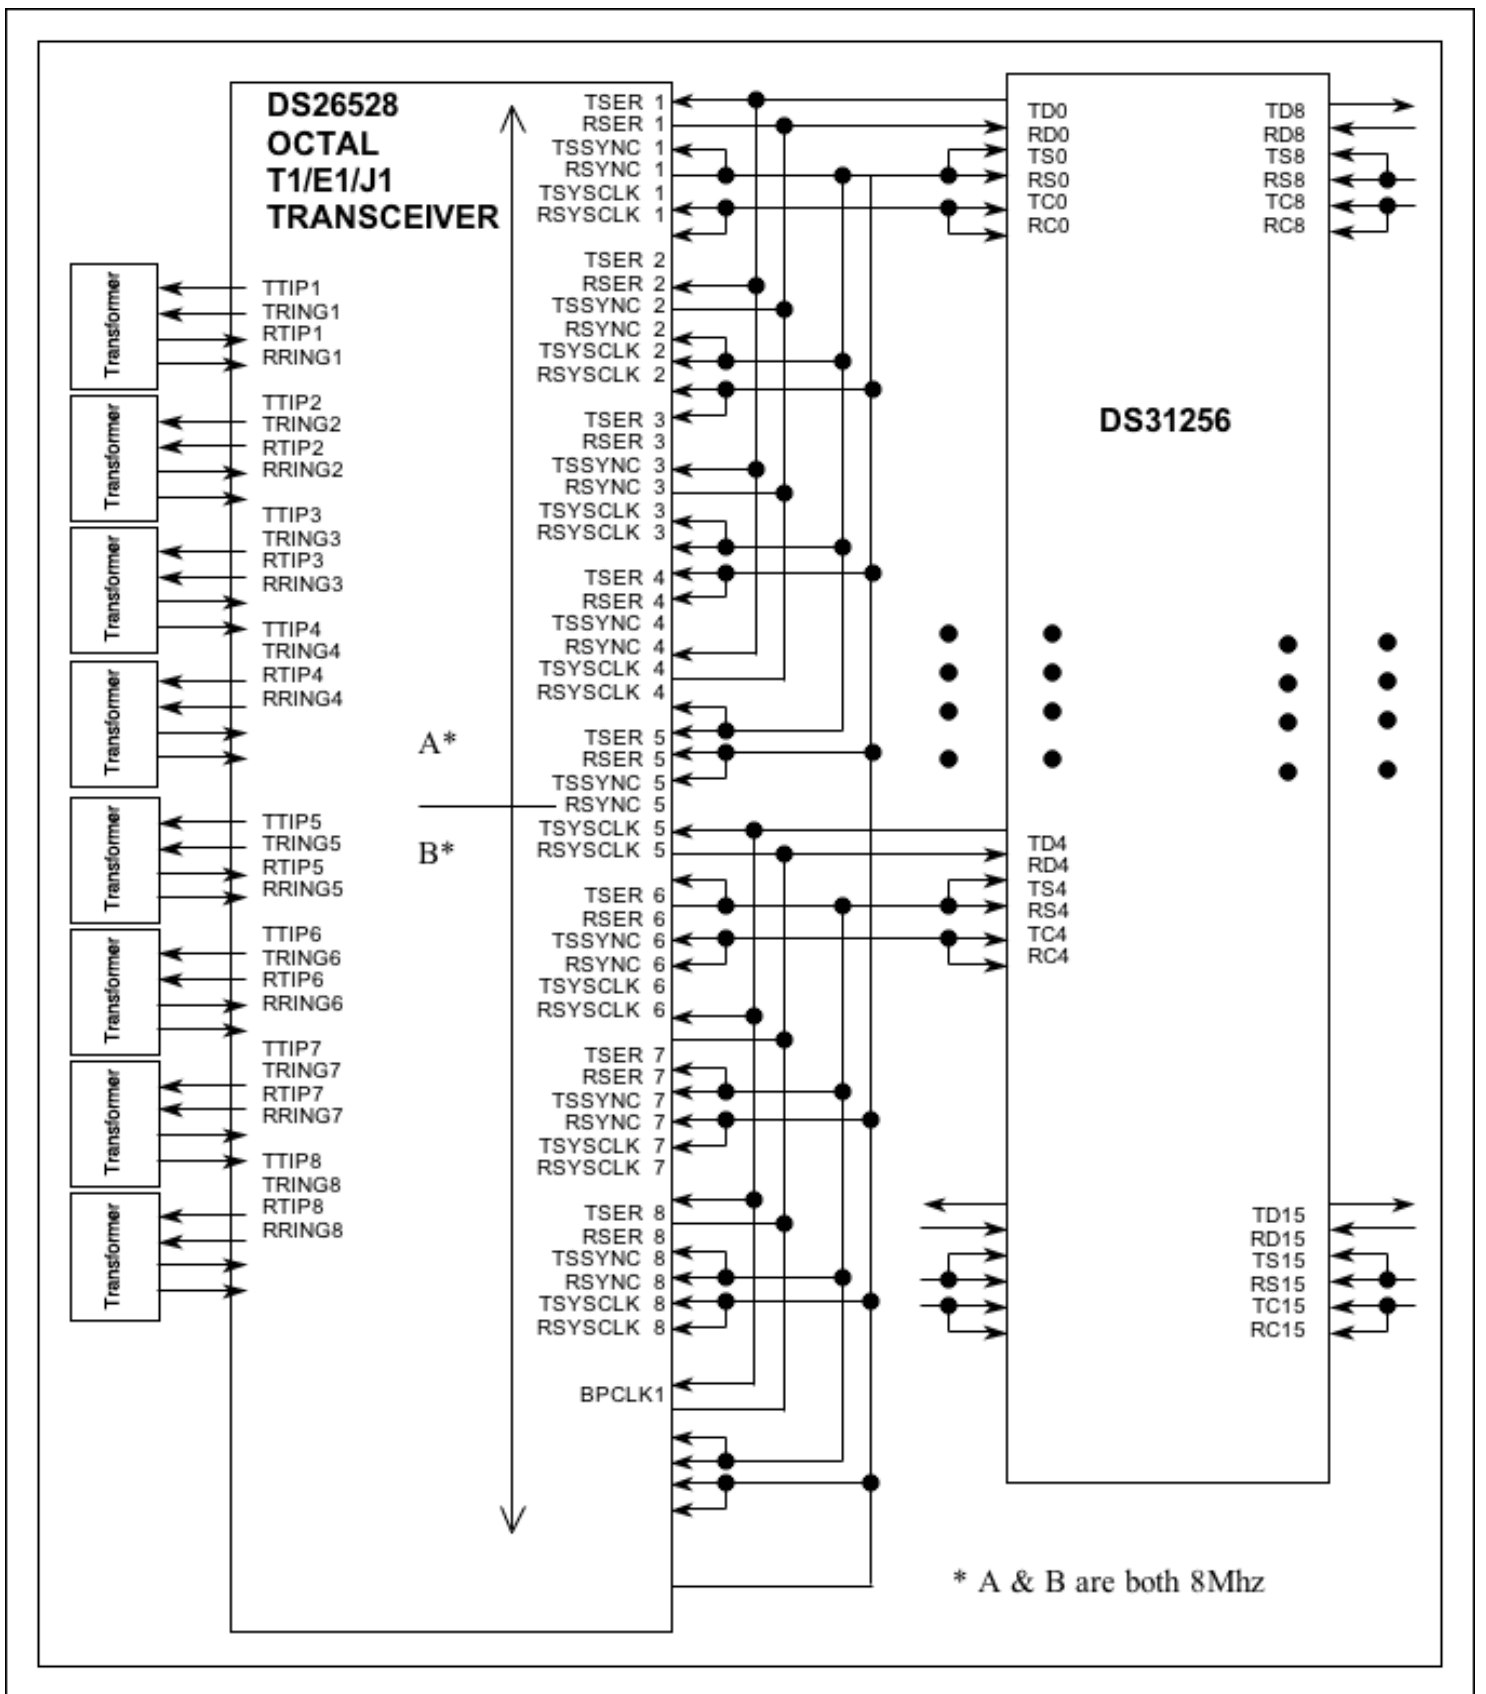

Figure 6. DS26528 connected to DS31256 in 8M mode.
**Figure 6** shows the connection between DS26528 and DS31256 in 8M mode. Two four E1 data bus (A and B) on the backplane bus is in frame interleave mode. The receive elastic store is enabled. The transmit clock is source from RCLK pin. The 8kHz transmit synchronization signal is generated from the RSYNC pin of the first device on the bus. All other devices on the bus have their frame syncs configured as inputs.